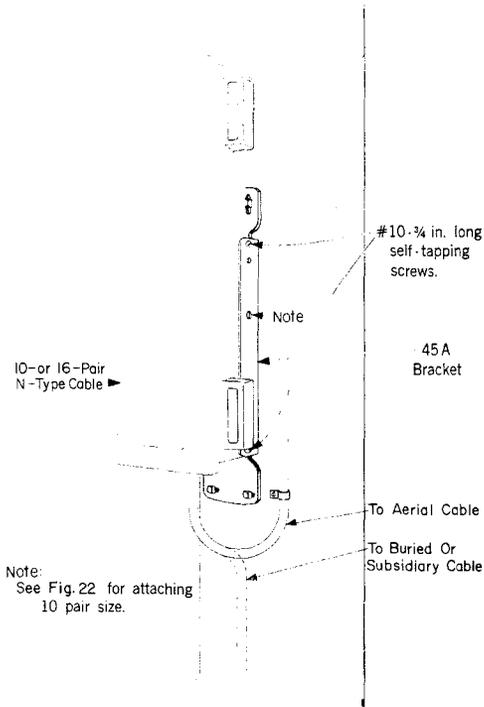

Fig. 24—10- or 16-Pair N-Type Cable Terminal Attached To Mounting Bracket
(3) Set the terminal on the bracket and secure in place with four self-tapping screws as indicated in Fig. 24.